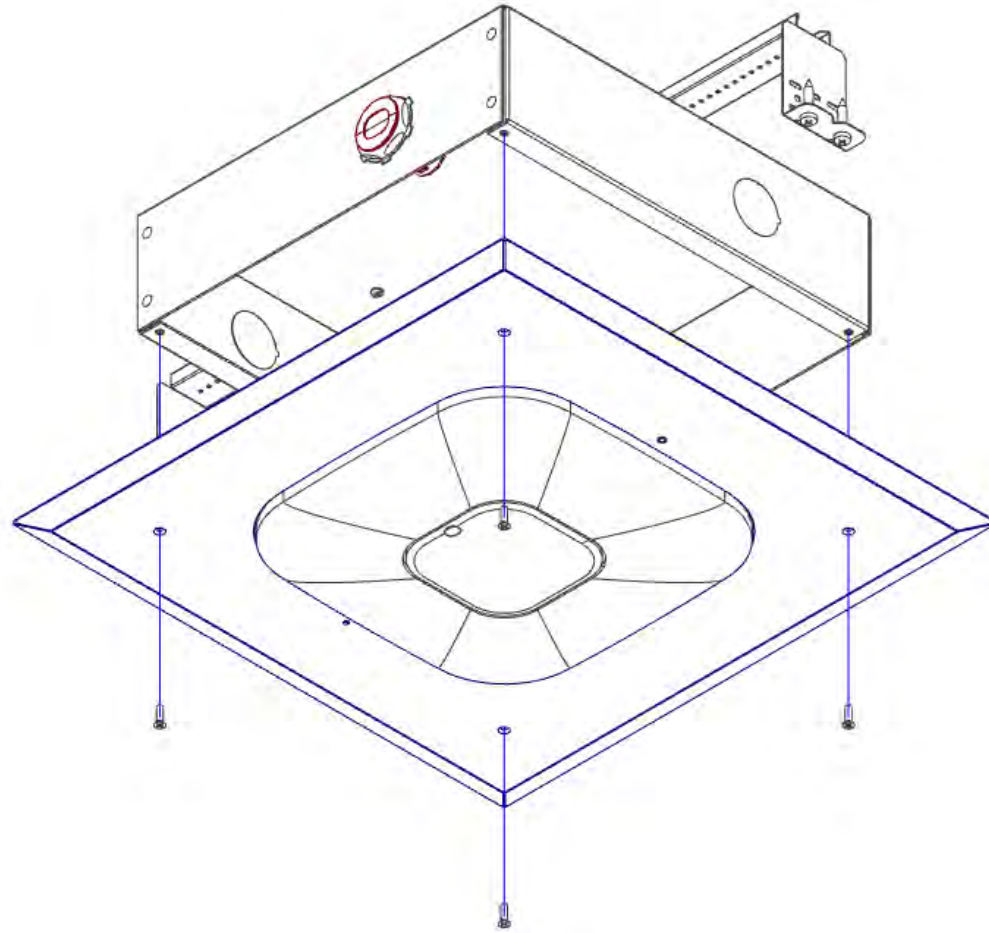

Figure 5 – Trim Install
Step 6 – Once the access point is secured and power and Ethernet are connected, screw the trim with access point into the installed back box using the provided painted screws. The installation is now complete. Reference Figure 5.